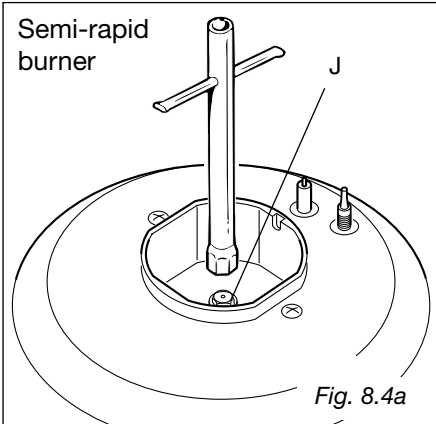

Fig. 8.4a
- Using a wrench substitute the nozzle injectors "J" (figs. 8.4a - 8.4b - 8.4c) with those most suitable for the kind of gas for which it is to be used.